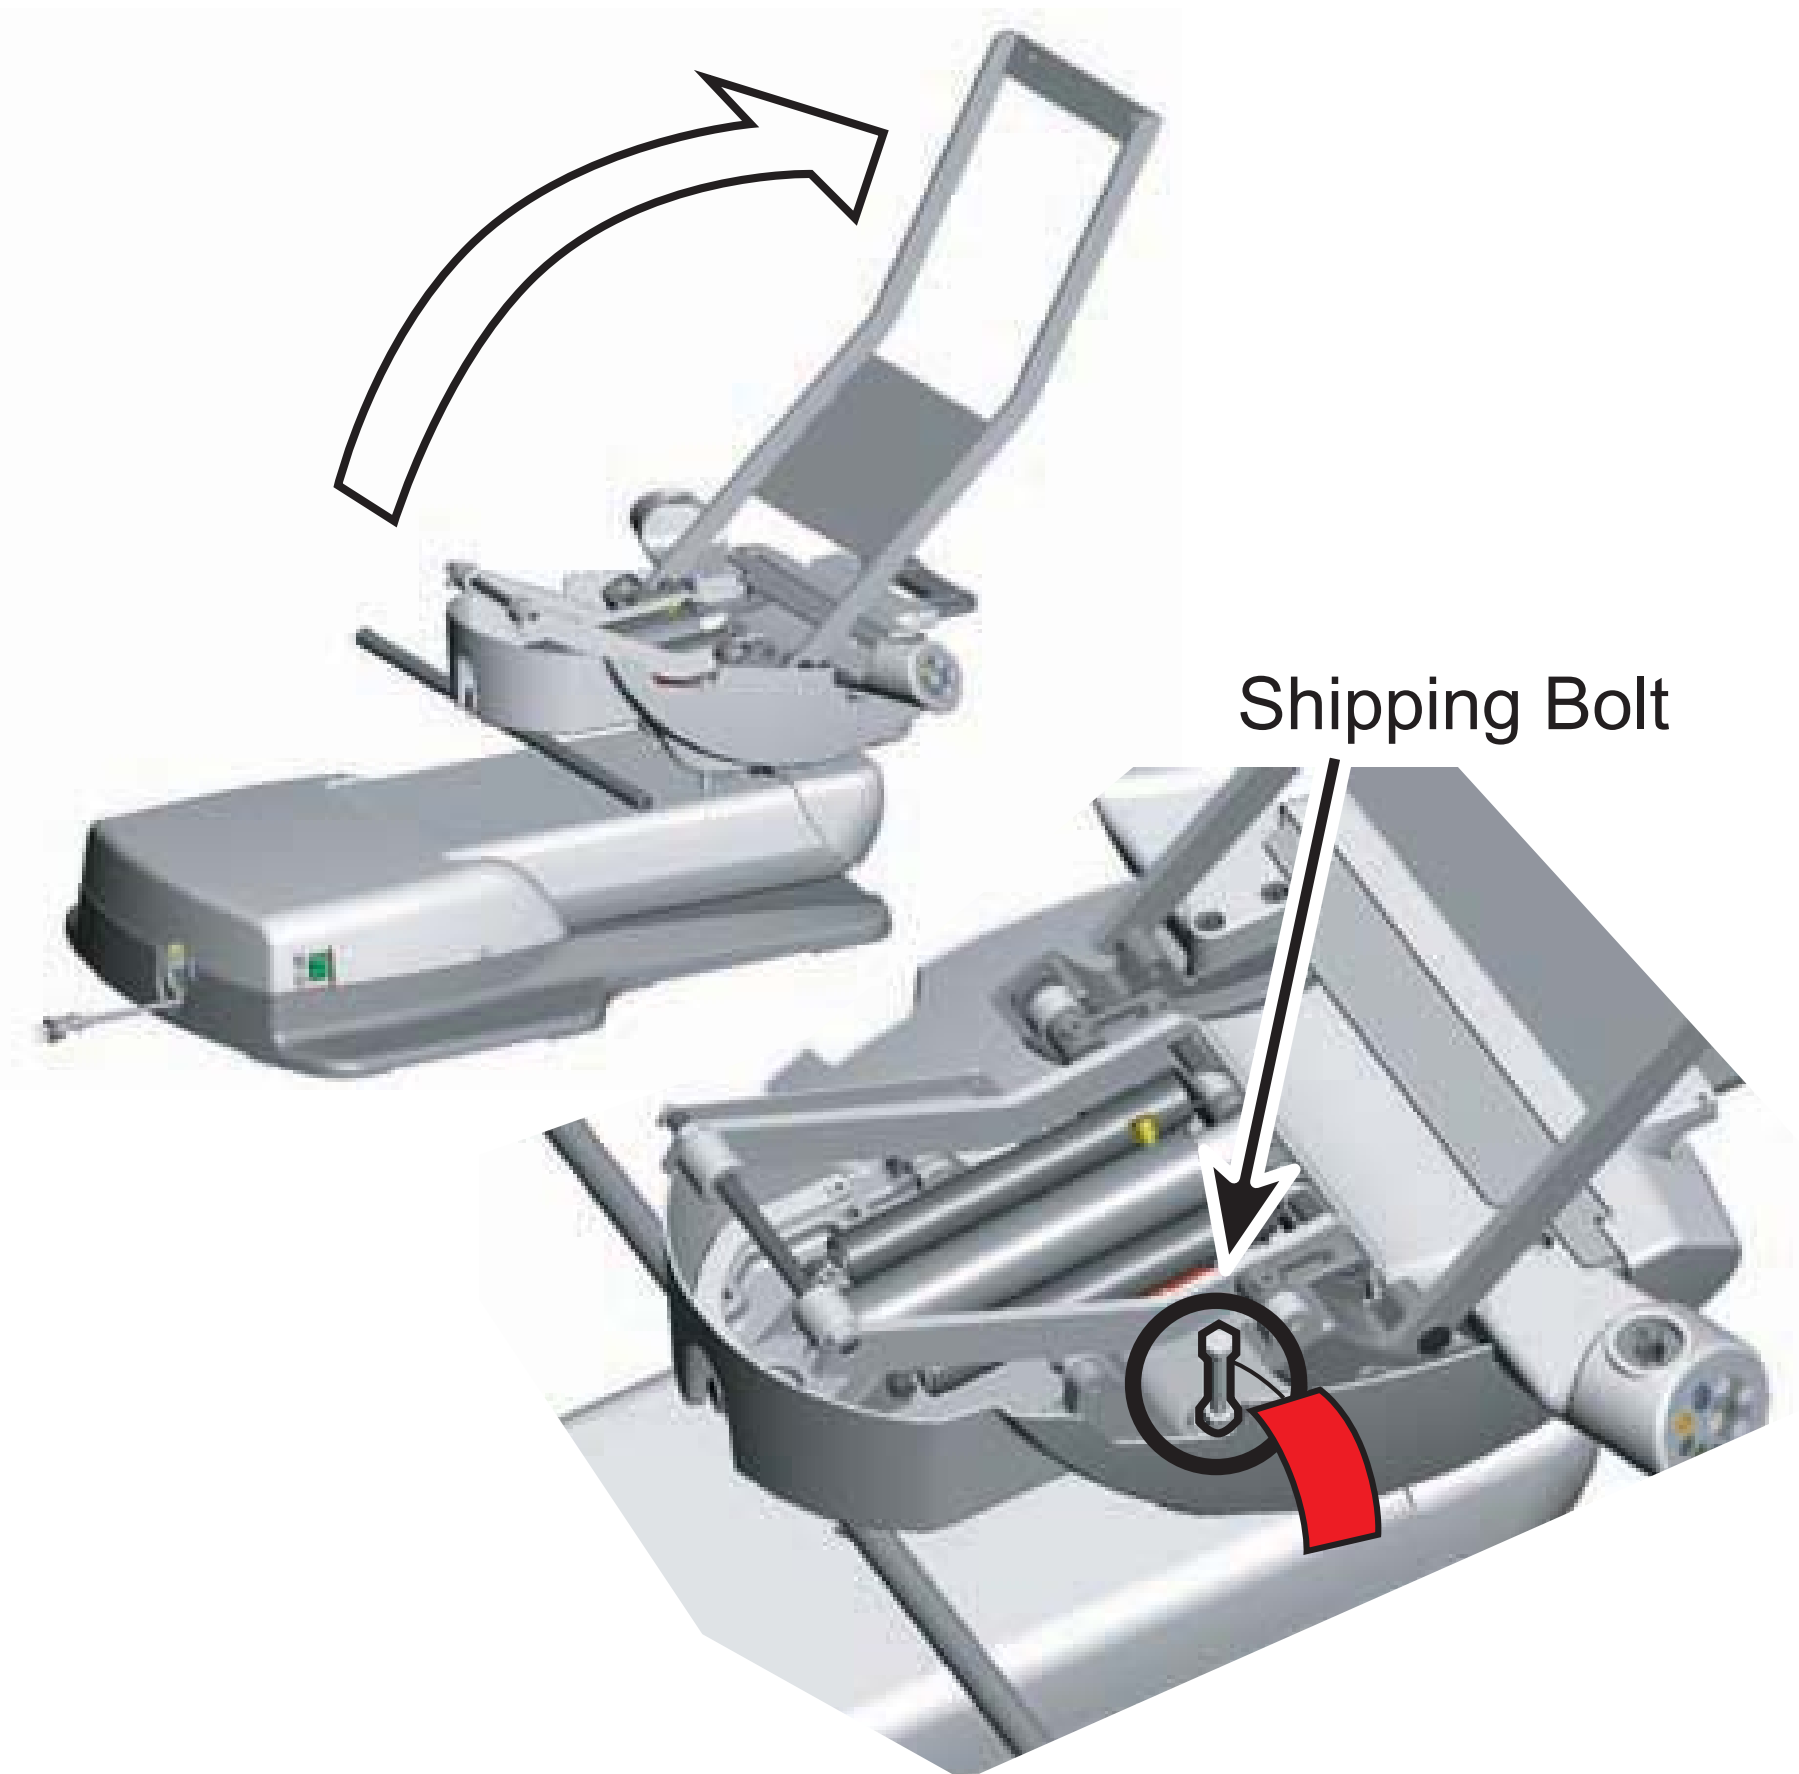

Fig. 5-2
2. Remove the red tagged Shipping Bolt (M10x150mm) from the chair. (Fig. 5-2)